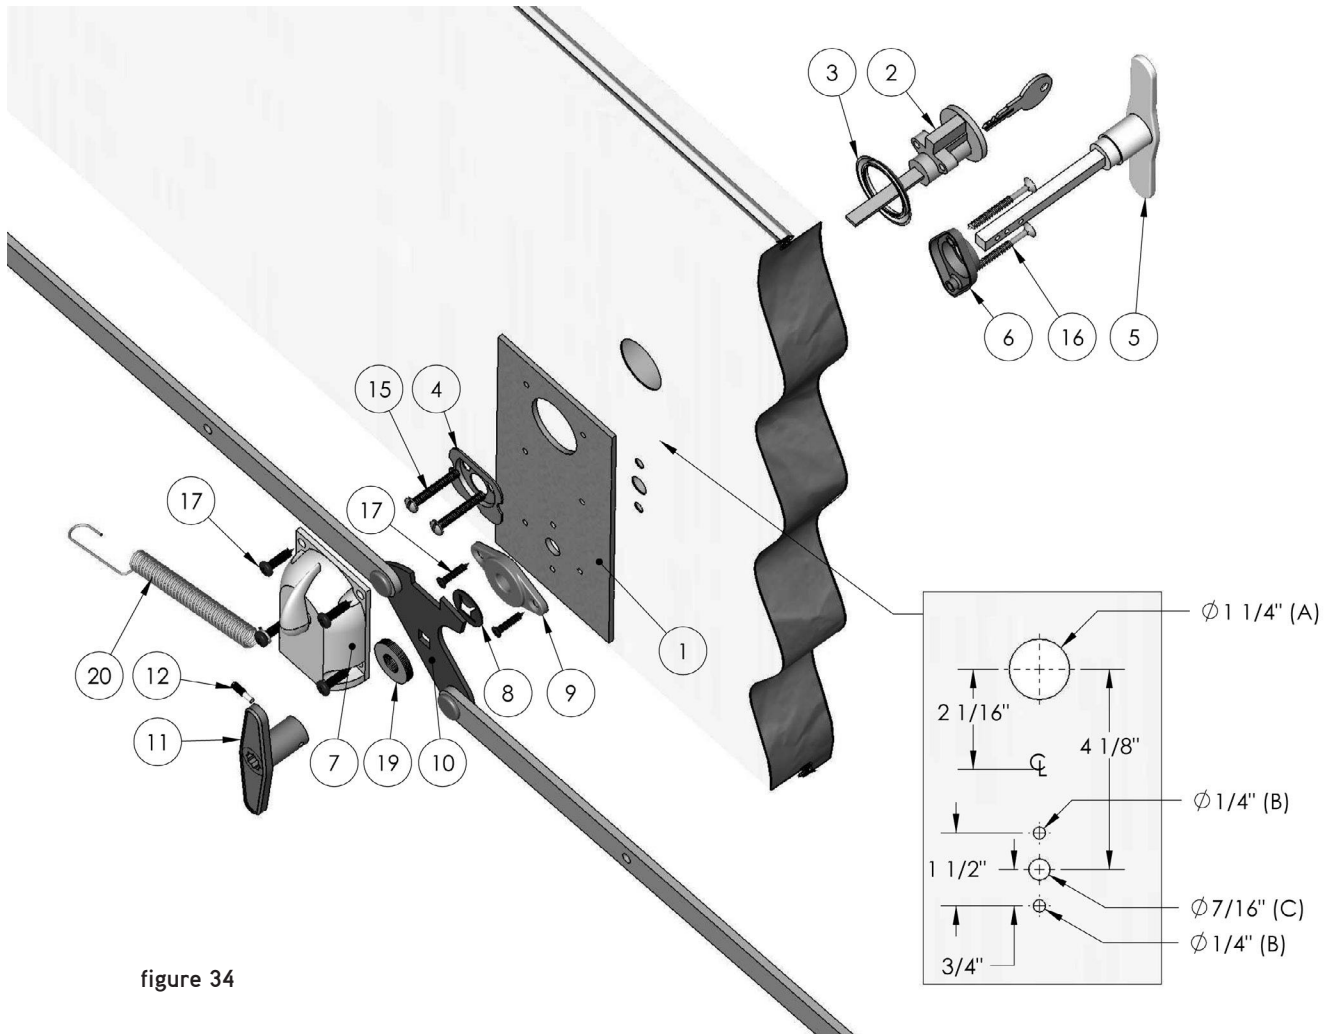

figure 34
2. Using figure 34 as a reference, mark the location of the four holes on the panel for A (barrel), B (screws) and C (handle);
4. Slide the exterior barrel (2) and trim ring (3) into hole (A). (The teeth of the key must be facing up and the key hole must be at the bottom of the barrel);
5. Position the steel plate (1) on the inside of the panel;
6. From the inside of the panel, insert plate (4) in hole (A) by positioning the round part downwards;
7. Insert 10 x 1 1/2" screws (15) in plate (4), align the screws in the holes of the outside barrel (2) and tighten the screws (make sure the plate is well aligned);
8. Insert the inside lock (7) in the shaft of the outside barrel (2) and fasten it to the steel plate (1) with four 3/8" screws (17) using a square head screw driver; Be sure to insert the bottom left screw in the round end of the return spring (20) before installing;
9. From the inside of the panel secure the plate (9) over hole (C) with two 3/8" screws (17);
10. Insert outside handle (5) in trim plate (6) and insert through hole (C);
11. Insert both 2 ¼" screws (16) through holes (B), align them in the steel plate holes and tighten;